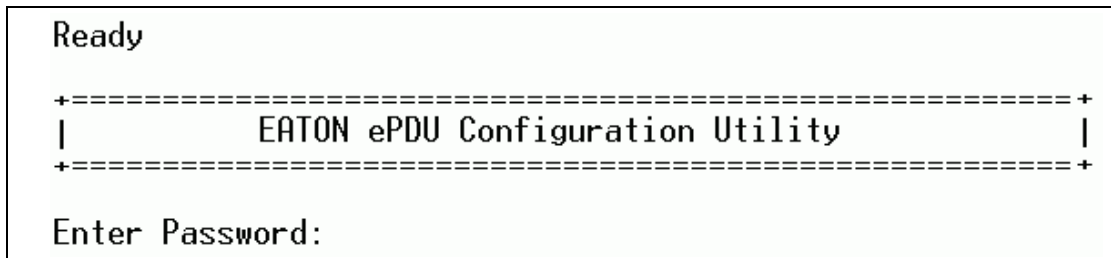

Figure 21. Login Menu
4. Press [Enter]. The Login menu displays (see Figure 21).